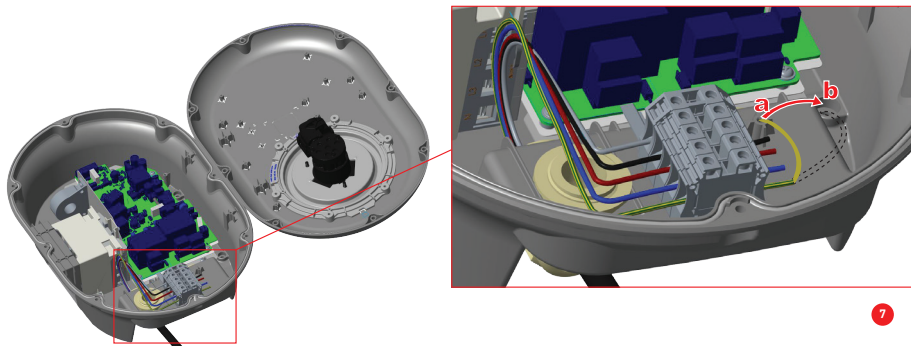

Figure-6
- 7-** In case you mount the charging station to conductive metal surface such as metal pole etc..., you can make ground connection via "right-bottom" screw using ground extension cable as shown in figure-6. To ensure the grounding, you need to change the grounding cable position from "a" to "b" as shown in figure-6. Follow the instructions below: